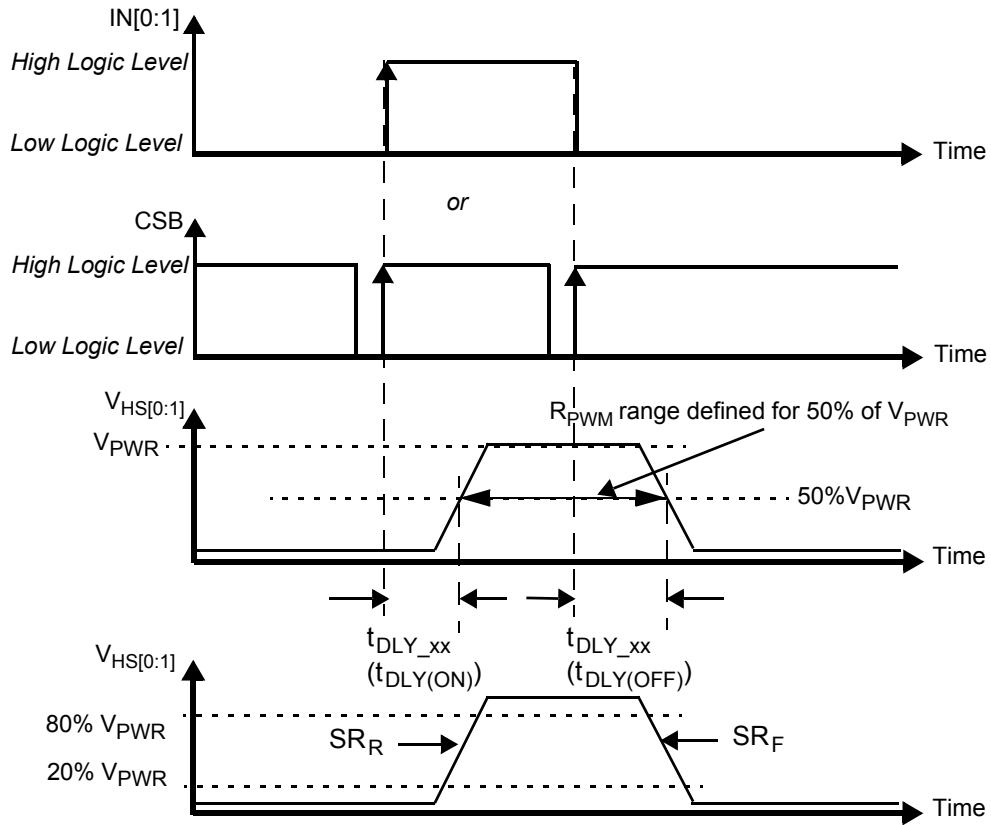
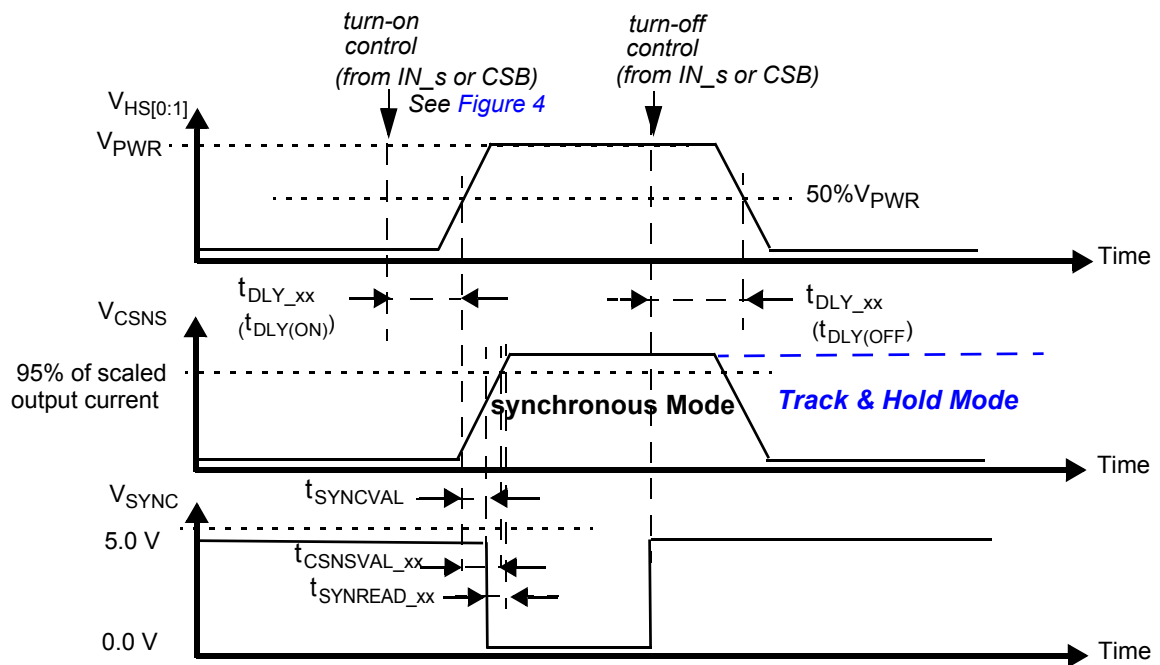

Figure 4. Output Voltage Slew Rate and Delay
Figure 9. Synchronous & Track-and-Hold Current Sensing Modes: Associated Delay & Settling Times
30. Rising and Falling edge slew rates specified for a 20 to 80% voltage variation on a 10 Ω resistive load (see Figure 4).
32. Time required to switch off the channel after detection of overtemperature (OT), overcurrent (OC), SC or UV error (time measured between start of the negative edge on the FSB pin and the falling edge on the output voltage until $V(\text{HS}[0:1]) = 50\%$ of V_{PWR}).
34. Settling time ($= t_{CSNSVAL_XX}$), SYNC output signal delay ($= t_{SYNCVAL_XX}$) and Read-out delay ($= t_{SYNREAD_XX}$) are defined for a stepped load current using a 10 Ω resistive load for CSNS_RATIO_s = 0. (see Figure 9 and Output Current Monitoring \(CSNS\)).
The CS pin allows independent current monitoring of channel 0 or channel 1 up to the steady-state overcurrent threshold. It can also be used to sense the device temperature. The different functions are selected by setting bits CSNS1_en and CSNS0_en to the appropriate value (Table 22). When the CSNS pin is sensed during switch-off in the (optional) track & hold mode (see Figure 9), it outputs the scaled value of the load current as it was just before turn-Off. When several devices share the same pull-down resistor, the CSNS pins of devices, the current of which is not monitored, must be tri-stated. This is accomplished by setting CSNS0_en = 0 and CSNS1_en = 0 in their GCR register (Table 11). Settling time ($t_{CSNSVAL_XX}$) is defined as the time between the instant at the middle of the output voltage's rising edge ($HS[0:1] = 50\%$ of V_{PWR}), and the instant at which the voltage on the CSNS pin has settled to $\pm 5.0\%$ of its final value. Anytime an overcurrent window is active, the CSNS pin is disabled (see Overcurrent Detection on Resistive and Inductive Loads). The current and temperature sensing functions are unavailable in Fail-safe mode and in Normal mode when operating without the V_{DD} supply voltage. In order to generate a voltage output, this pin requires a pull-down resistor ($R(CSNS)=1.0\text{ k}\Omega$ typ. and $470 < R(CSNS) < 10\text{ k}$). When the current sense resistor connected to the CSNS pin is disconnected, the CSNS voltage is clamped to $V_{CL(CSNS)}$. The CSNS pin can source currents up to about 5.6 mA.
To synchronize current sensing with an external process, the SYNC signal can be connected to a digital input of an external MCU. An open-drain pull-down on SYNC indicates that the current sense signal is accurate and ready to be read. The current sense signal on the CSNS pin has the specified accuracy $t_{SYNREAD_XX}$ seconds after the falling edge on the SYNC pin (Figure 9) and remains valid until a rising edge is generated. The rising edge that is generated by the SYNC pin at the turn-OFF instant (internal or external) may also be used to implement synchronization with the external MCU. Parameter t_{SYNVAL_XX} is defined as the time between the instant at the middle of the output voltage rising edge ($HS[0:1] = 50\%$ of V_{PWR}), and the instant at which the voltage on the SYNC-pin drops below 0.4 V (V_{SOL}). The SYNC pins of different devices can be connected together to save micro-controller input channels. However, in this configuration, the CSNS of only one device should be active at a time. Otherwise, the MCU is not be able to determine the source of the SYNC signal. The SYNC pin requires an external pull-up resistor to V_{DD} .